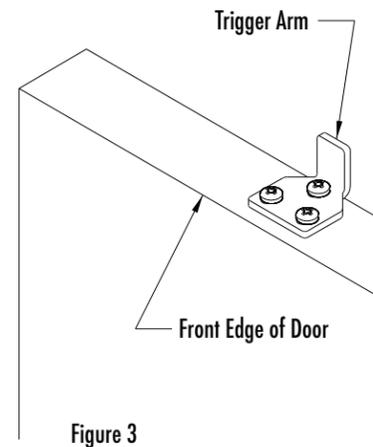

Figure 3
Step 5) With both sets of Soft Close Mechanism in the catch position, both Trigger Arms can now be installed using #8 Phillips screws provided (See figure 3). Ensure to install all three screws to each Trigger Arm. With both Trigger Arms in place, slide the door closed to engage the first Soft Close Mechanism then slide the door open to engage the second Soft Close Mechanism (See figure 4). Close and open the door again to ensure operation is correct. Note, it may be necessary to re-locate the left and right stoppers on your rail. If adjustments are required, it will be necessary to remove the two outer wall spacers on the rail to enable the re-positioning of the left and right stoppers. Once relocated, re-insert the two outer spacers back onto the wall.